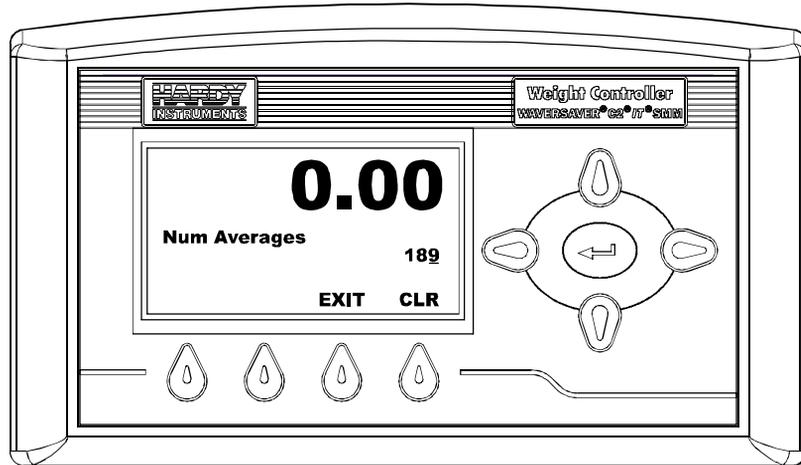

FIG. 72 NUM AVERAGES MENU
Step 3. Use the left or right arrow buttons to move the cursor. When you have placed the cursor in the location you want, use the up or down arrows to enter the number you want for this application. In our example we entered 189 for our Number of Averages. (See Fig. 72)
The number entered in Figure 72 is for illustration purposes only, yours will vary depending on your application.